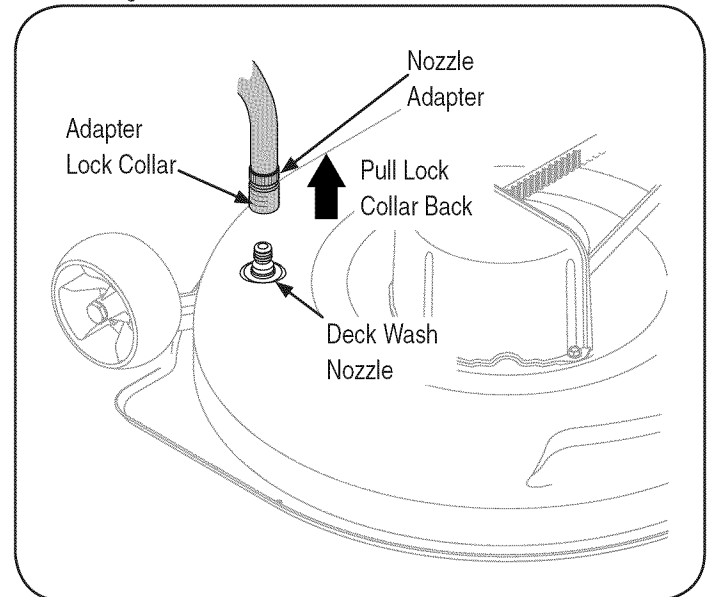

Figure 13
4. Pull back the lock collar of the nozzle adapter and push the adapter onto the deck wash nozzle at the left end of the mower deck. Release the lock collar to lock the adapter on the nozzle. See Figure 13.